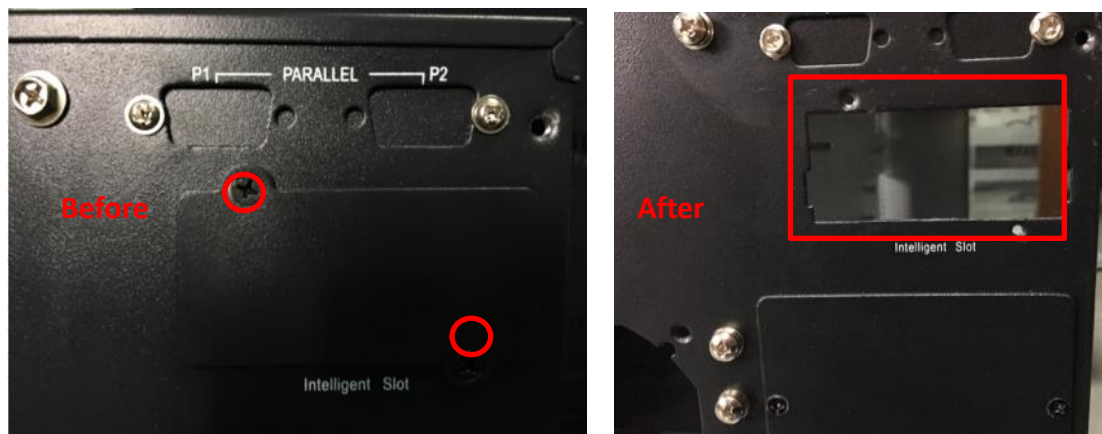

Figure 2 Remove plate of intelligent slot
2. Remove the plate of intelligent slot, as is shown in figure 2.